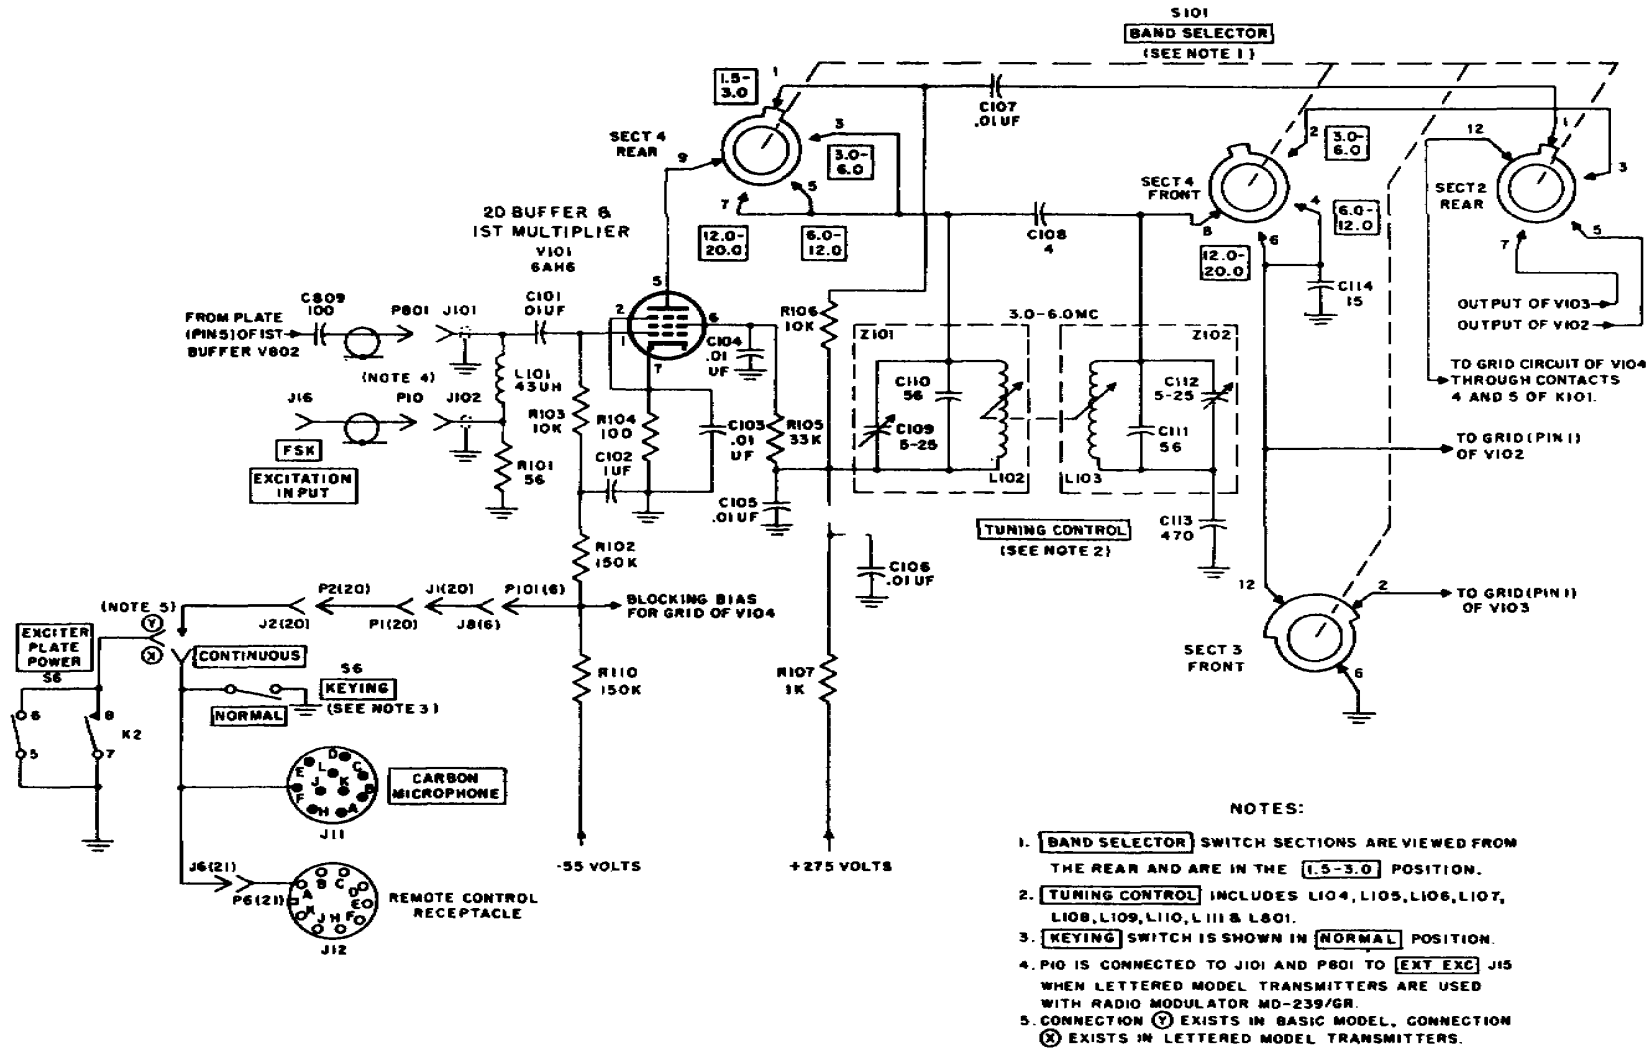

Figure 4. Second buffer and first multiplier stage.
#### 4. Second Buffer and First Multiplier Stage (fig. 4)
*b.* In CW or AM operation, V101 is blocked-grid keyed. Blocking bias is applied to the control grid of V101 through resistors R110, R102, and R103. Resistor R102 and capacitor C102 decouple the RF input from the bias supply. When the handkey or the push-to-talk switch on the microphone is closed, the blocking bias is removed from the grid of V101 by grounding the grid circuit at the junction of R102 and R110. In the basic model (fig. 4), the handkey and push-to-talk switch energize relay K2. In the lettered models, they ground the line directly. The stage then becomes operative. To improve keying characteristics, intermediate amplifier V104 is similarly blocked-grid keyed. For EXT EXC, FSK, or FSK-AM operations, which require that the FSK carrier be uninterrupted, the blocking bias is permanently removed by setting KEYING switch S6 of the lettered models to the CONTINUOUS position. In the basic model, the EXCITER PLATE POWER switch in the ON (up) position serves the same purpose.